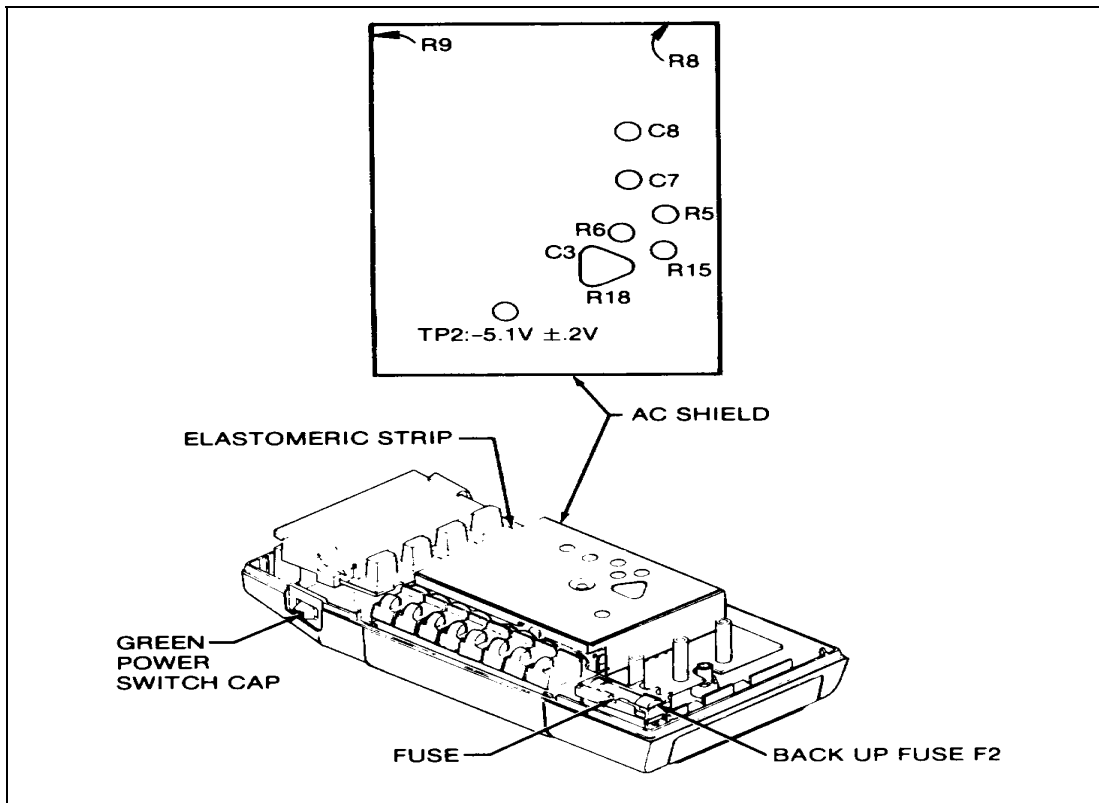

Figure 1. Access and adjustments.
(1) Set calibrator to 190 mV. Press TI **200 mV** pushbutton and adjust R8 (fig. 1) for a TI indication of 190.00 (R).
(2) Press **2V** pushbutton. Adjust R6 (fig. 1) fully cw and adjust R5 (fig. 1) ccw.
(3) Set calibrator output to 1.9000 V. Adjust R5 (fig. 1) for a TI indication slightly greater than 1.9000. Adjust R6 (fig. 1) for a TI indication of 1.9000 (R).
- (1) Adjust R18 (fig. 1) fully cw and adjust R15 (fig. 1) ccw.
- (2) Set calibrator output to 100.00 mV. Adjust R15 (fig. 1) for a TI indication slightly greater than 100.00 mV. Adjust R18 (fig. 1) for a TI indication of 100.00 mV (R).